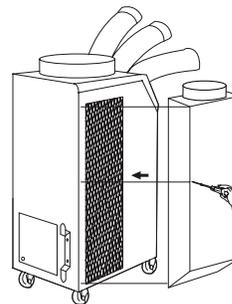

Figure 4
3. Use screws (enclosed inside of box with Condenser Plenum) to install the Condenser Plenum on the air conditioner as shown in Figure 4.